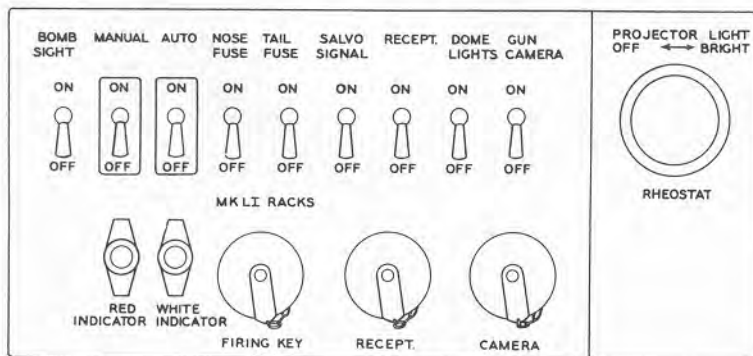

Figure 59—Bombardier's Front Panel
4. The bomber's electrical control switch panel is located in the left-hand forward corner of the bomber's compartment. (See figures 59 and 60.)